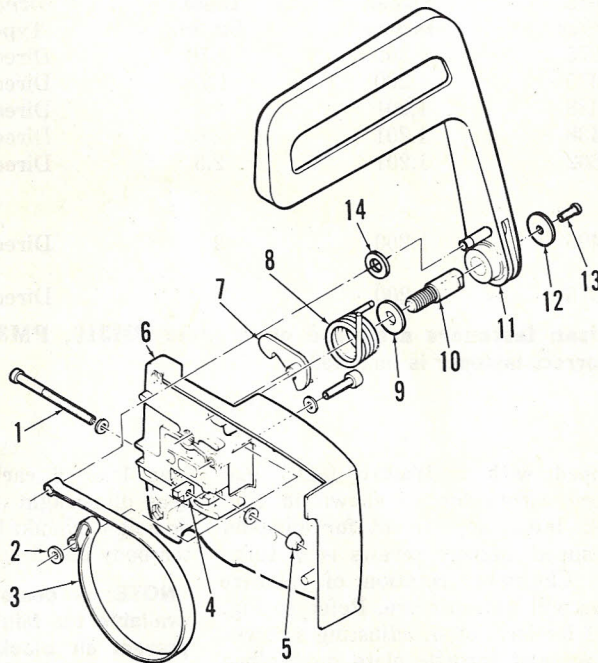

Fig. MC6-25—Typical view of chain brake used on some later models.
are equipped with the chain brake mechanism shown in Fig. MC6-25. The chain brake stops chain motion when the operator's hand contacts brake lever (11) and steel strap (3) tightens